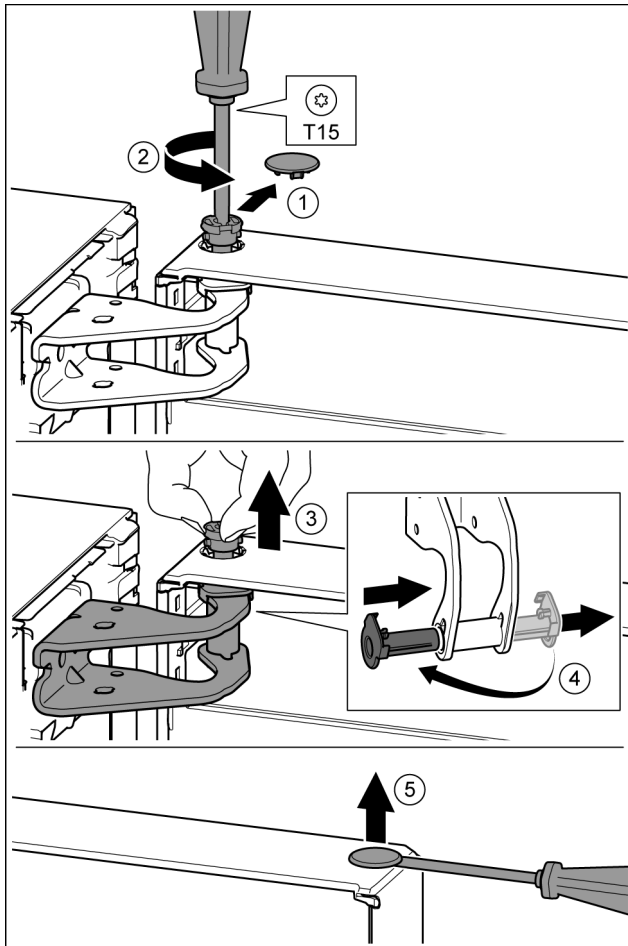

Fig. 11
- ▶ Carefully remove the protective cover. *Fig. 11 (1)*
- ▶ Undo the bolt a little with a T15 screwdriver. *Fig. 11 (2)*
- ▶ Hold the door and remove the bolts with your fingers. *Fig. 11 (3)*
- ▶ Pull the bearing bush out of the guide. Insert from the other side and click into place. *Fig. 11 (4)*
- ▶ Carefully lift the plugs out of the door bearing bush with a slotted screwdriver and remove. *Fig. 11 (5)*